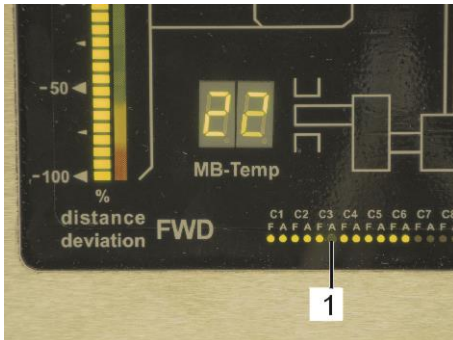

Fig. 111: Distance sensor missing
1. Note: if the number of the distance sensor is not illustrated on the Indication unit (Fig.111/1 means AFT sensor compartment 3)...